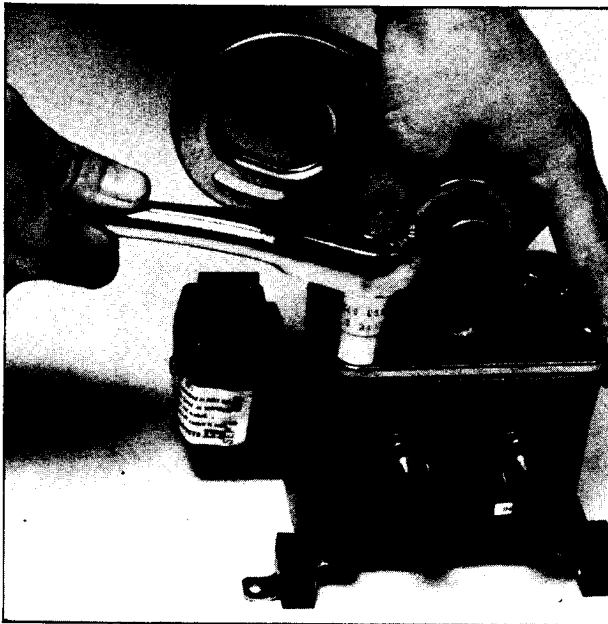

Figure 10
3. Remove motor and four tie down screws. (Figure 10)